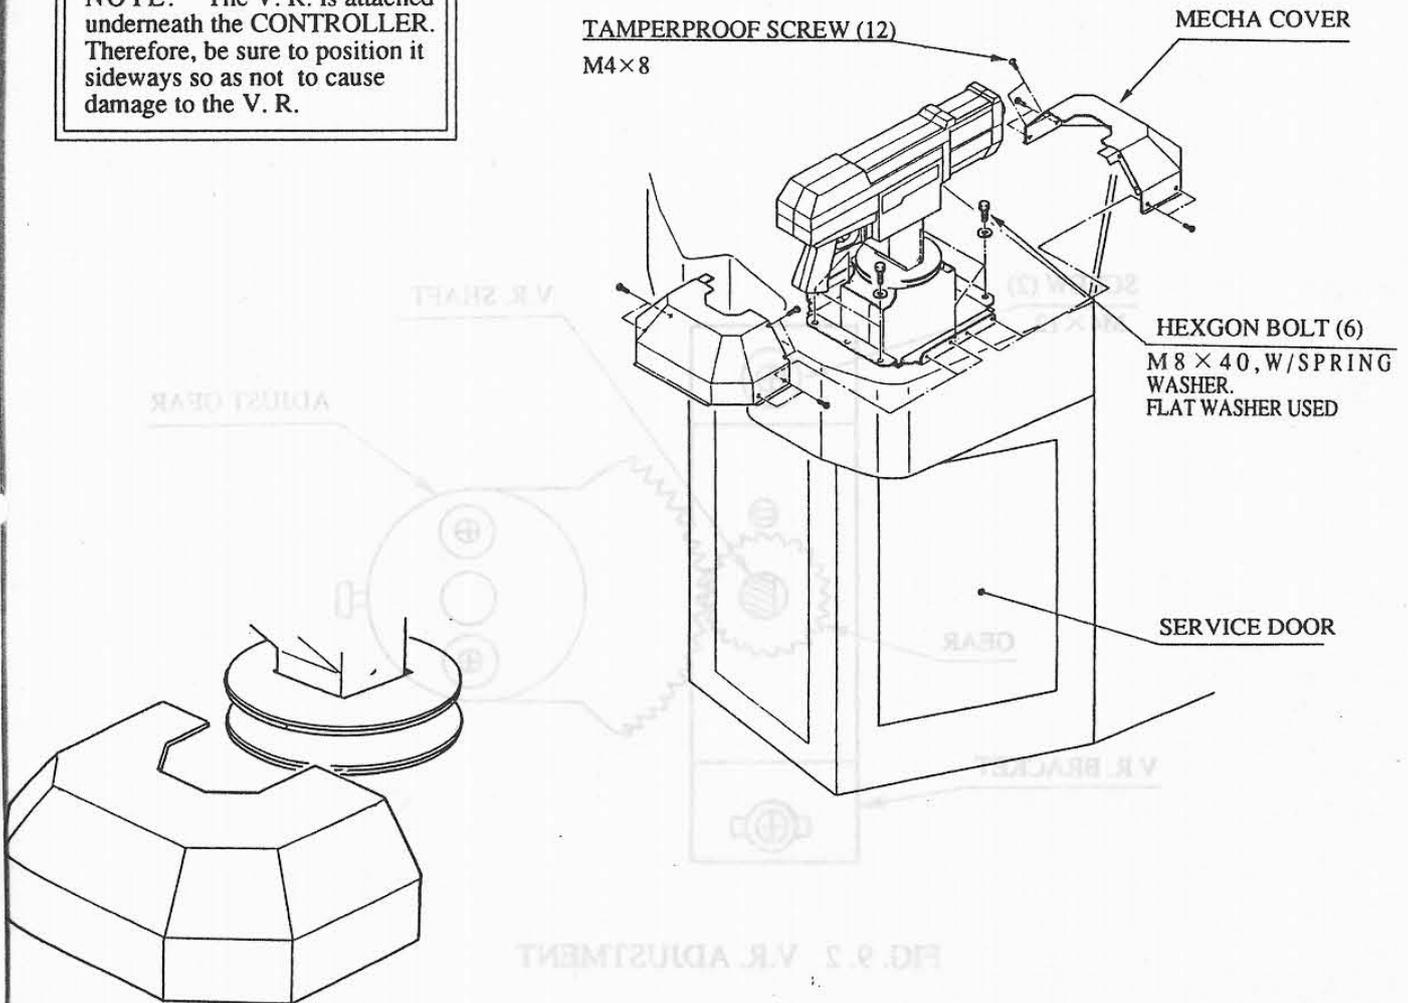

FIG. 9. 1 REMOVING THE CONTROLLER
- ① Loosen the 2 screws (which secure the V.R. BRACKET) to move the V.R. BRACKET.
- ② Move the V.R. BRACKET to disengage the GEAR and ADJUST GEAR. Move the V.R. SHAFT and make sure that the cut portion of the V.R. SHAFT faces the opposite side of the ADJUST GEAR as shown in Fig. 9. 2.
- ③ Cause the GEAR to be engaged and tighten the 2 screws. At this time, make backlash adjustments.
- ④ Carefully swing the gun in the horizontal and vertical directions and check to see if the V.R. value is within the allowable range.
- ⑤ After making adjustments, reset the V.R. value in the GUN ADJUSTMENT in the TEST menu.